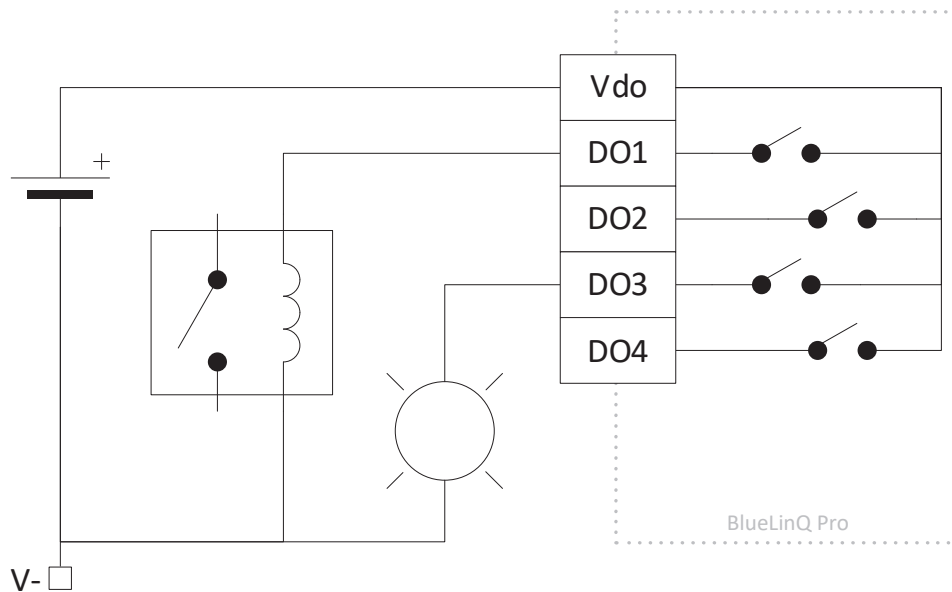

Figure 2 Typical Digital output connections
The BlueLinQ Pro is supplied with 4 Digital Out ports, these are accessed via a five-port connection, see Figure 2 and Table 1 below. Pin8 (Vdo) is power in for the ports, in the range of 10 VDC to 30 VDC with a maximum total load of 4 A. The return for the supply connected to Vdo must be connected with V- (return of BlueLinQ Pro supply). Pin9 to Pin12 are the digital outputs DO1 to DO4. When connecting use suitable sized single stranded wire is to be used1. The digital outputs have a voltage out of Vdo with a maximum total load of 4 A for all outputs and a maximum current rating of 1.7 A per output.
**Note:** *The return of the supply connected to Vdo needs to be connected with the return of the supply of the BlueLinQ Pro (V-). See figure 2 below.*